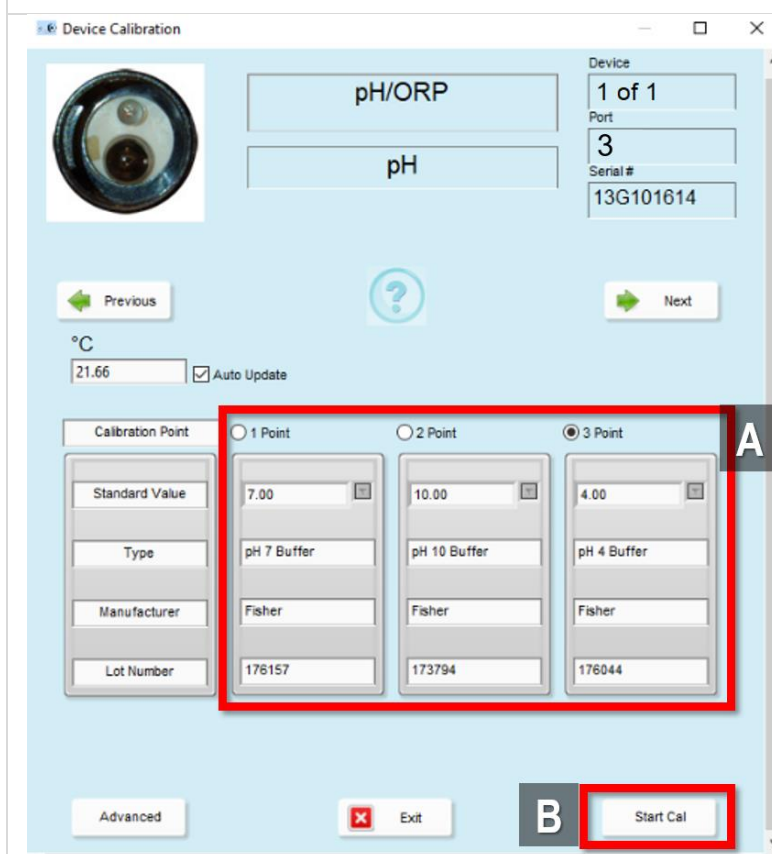

Figure 120. Parameters for a 3-Point Calibration for pH
**STEP 4** | In the KorEXO software, select the port with the pH sensor probe in the Calibration Menu and then select **pH** to proceed. In the **Device Calibration** window, input the following information for a 3-point calibration process (A in Figure 120):
Then click **“Start Cal”** (B in Figure 120).